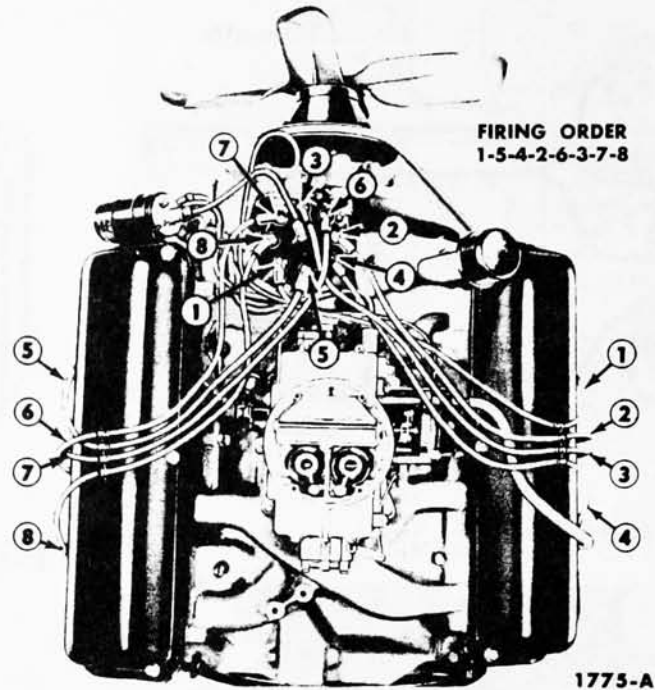

FIG. 9—Ignition Wiring Installation
2. Remove the brackets from the old spark plug wire set and install them on the new set in the same relative position. Install the wires in the brackets on the valve rocker arm covers (Fig. 9), then connect the wires to the proper spark plugs. Install the coil high tension lead. **Be sure No. 7**
spark plug wire is positioned in the brackets as indicated in Fig. 9.